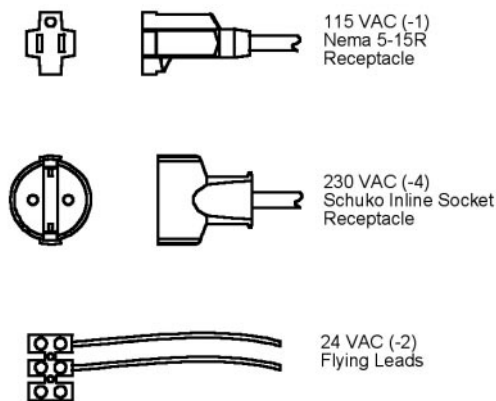

FIGURE 10 Camera Connections
**Installing a 115 volt camera** into the LTC 9385/60 housing simply requires the camera's line cord to be plugged into the NEMA 5-15R receptacle provided. See FIGURE 10.
**Installing a 24 volt camera** into the LTC 9385/20 housing simply requires the two flying leads be attached to the camera's terminal block. See FIGURE 10.
**Installing a 230 volt camera** into the LTC 9385/50 housing simply requires the camera's line cord to be plugged into the *Schuko* inline receptacle provided. See FIGURE 10.